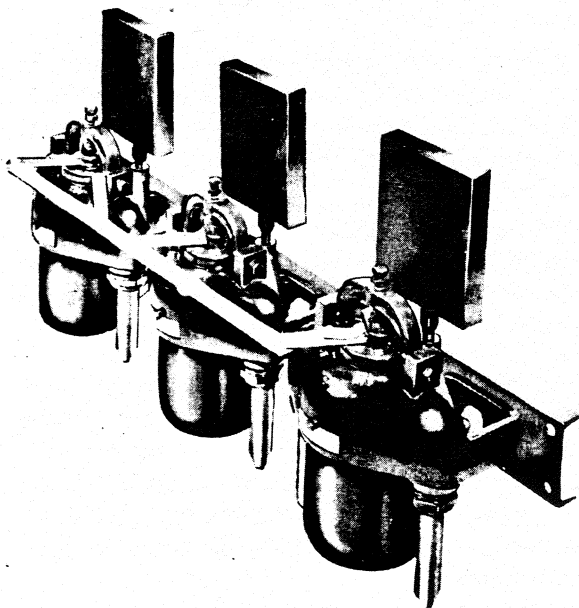

Fig. 21
1. Mount the sealed cutouts on the rack, with expansion chambers as shown in Fig. 21.